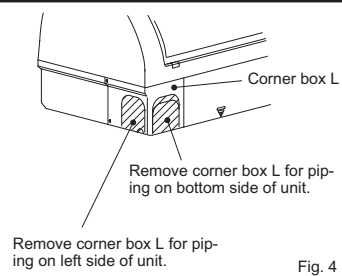
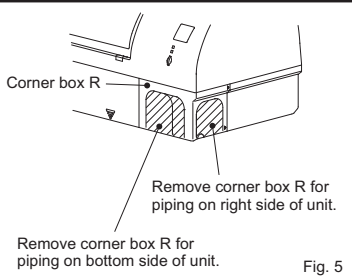

Fig. 4
Fig. 5
- According to the piping direction, remove the shaded part of the corner box L (Fig. 4) or corner box R (Fig. 5). Reinstall electrical cover, corner box and front panel.
- Insert the drain hose fully into the drain pan at the back right of the indoor unit. (Fig. 4)
- Insert the drain hose into wall hole sleeve (C), and attach the upper part of indoor unit onto the installation plate (1). Then, shift the indoor unit completely to the left to make placing the piping in the back of the unit easier.
- Cut out a piece of cardboard from the shipping box, roll it up, hook it onto the back rib, and use it as a spacer to lift the indoor unit. (Fig. 5)
- Connect the refrigerant piping with the extension pipe (B).
- Attach the lower part of the indoor unit into the installation plate (1).
- 4) Flaring work (Fig. 4, 5). Firmly hold copper pipe in the dimension shown in the table. Select A inch (mm) from the table according to the tool you use.